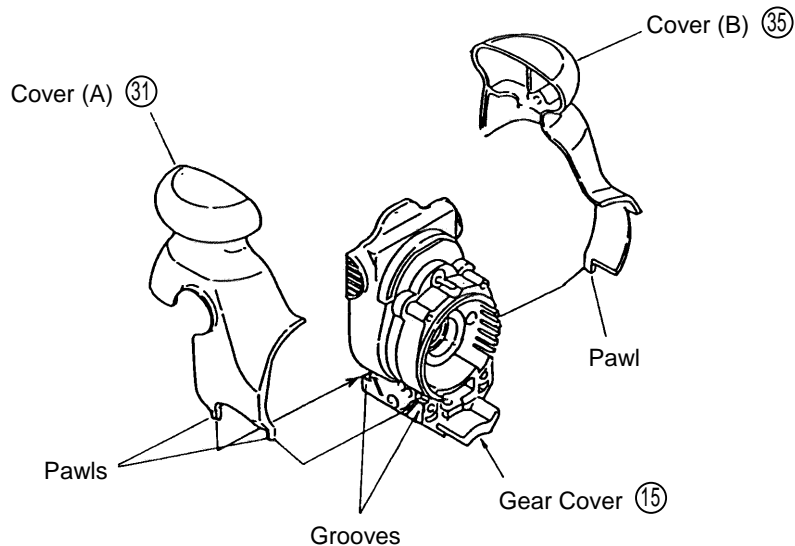

Fig. 21
- (9) Install Cover (A) (31) and Cover (B) (35) so that their pawls (two on Cover (A), one on Cover (B)) are properly inserted into the grooves provided on the Gear Cover (15). (See Fig. 21)